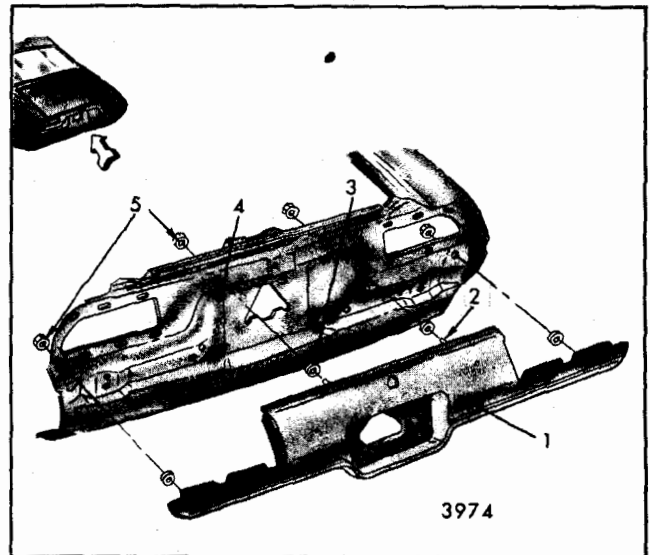

Fig. 8-23-Rear End Finishing - Pontiac "F" Styles
The rear end finishing panel is made of molded glass fiber plastic and retained by four attaching studs and nuts (Fig. 8-23).
2. Remove four rear end finishing panel retainer nuts, and remove panel from body (Fig. 8-23).